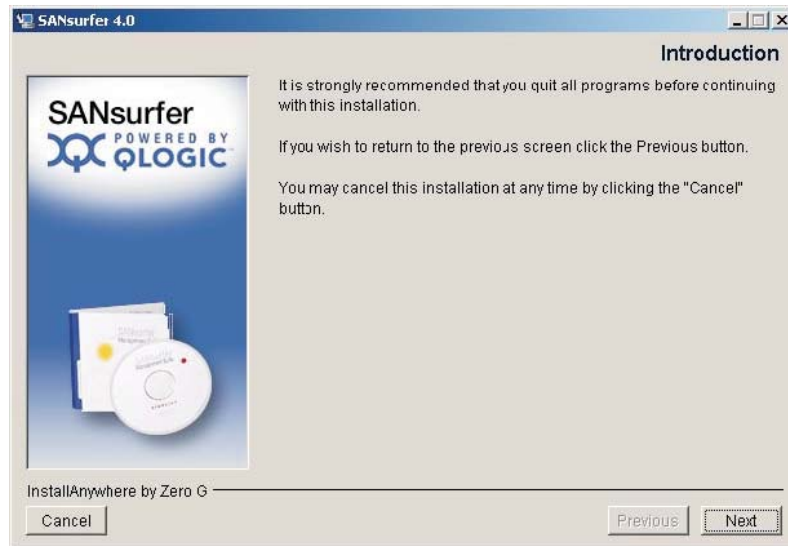

Figure 1. Installation Introduction window
2. The InstallAnywhere[®] program prepares to install the SANsurfer application. The installation Introduction window opens, as shown in Figure 1 on page 41. Click **Next**.